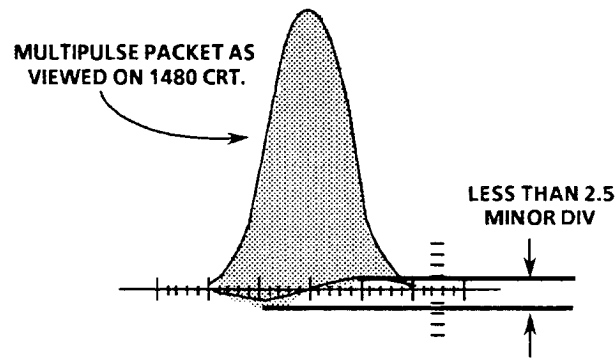

Figure 6–11: Delay error within 1%
- c. Check the 12T pulse baseline for less than  $\pm 1\%$  gain error and less than 1% peak-to-peak delay error. See Figure 6–11.